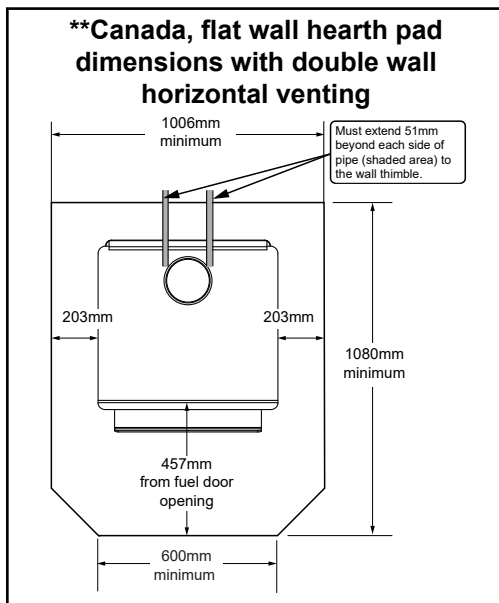

Figure 9.2 - \*\*These dimensions will vary depending installation.
**In Canada,** similar floor protection must be provided 18 inches (457mm) in front and 8 inches (203mm) from the sides and rear of the appliance unless the hearth pad is placed against the wall (**Figure 9.2**). Then the clearance may be reduced using double wall pipe and the **Clearance to Combustibles** table listed on page 10.
**\*Exception:** Non-combustible floor protector must extend beneath the flue pipe when installed with horizontal venting and extend 2 inches (51mm) beyond each side; **See Figure 9.2**